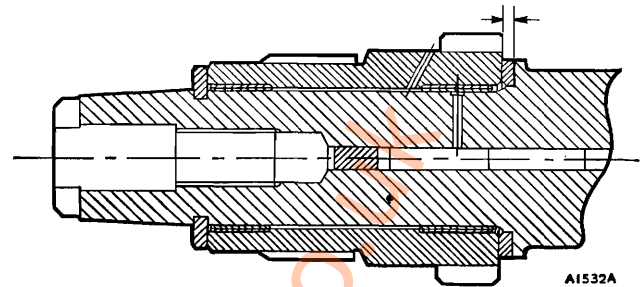

Fig. A.16
(6) Check the primary gear running clearance (Fig. A.16). Fit the inner thrust washer with its chamfered bore against the crankshaft flange.
(7) Renew the crankshaft primary gear oil seal if it shows signs of damage or oil leakage, using Service tool 18G 134 and adaptor 18G 134 BC.